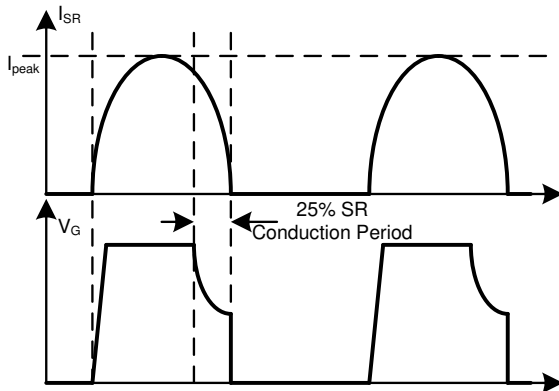

Figure 12: Synchronous Rectification Typical Waveform in LLC
Figure 12 shows the typical waveform of the LLC on the secondary side. To achieve a fairly high usage of the MOSFET's  $R_{DS(ON)}$ , it is expected that the MOSFET driver voltage is kept at the maximum level until the last 25% of the SR conduction period. Calculate  $V_{DS}$  with Equation (2):